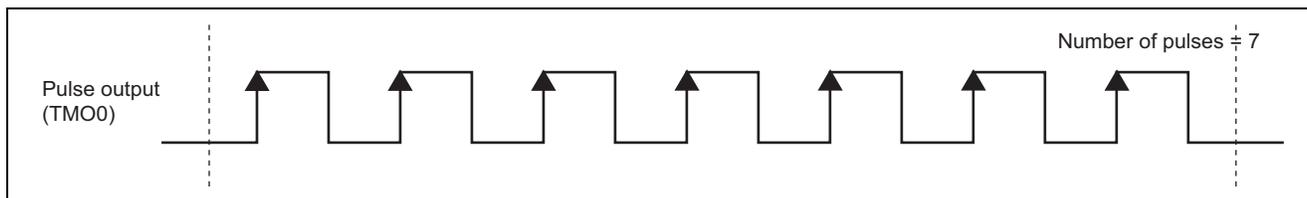

Figure 1 Example of Pulse Output Timing
- An example of the pulse output timing is shown in figure 1.